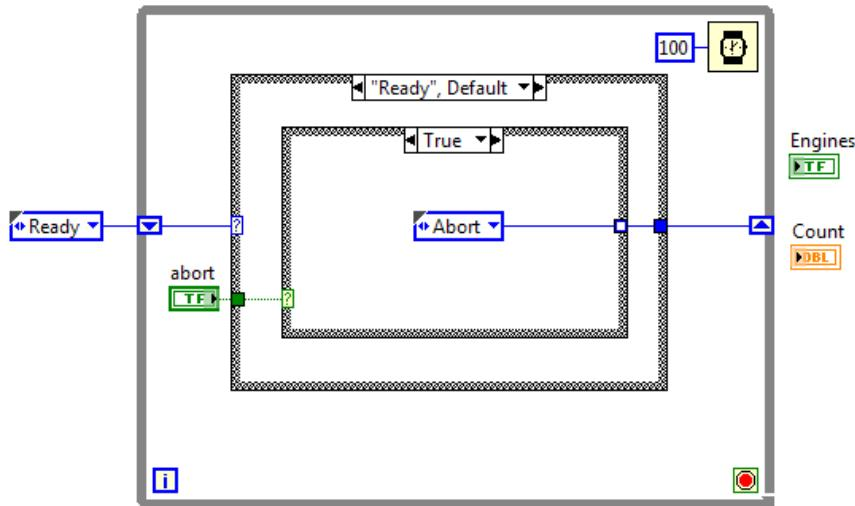

FIGURE E.8 Wiring the Ready state to handle the Abort button being pressed.
30. Grab the terminal for the Abort button and put it inside the While Loop, close to the left side. You are doing this now to help you size things right in the next step. (As you go through the next few steps, you may find it useful to look ahead to Fig. E.8.)
36. Wire the control to the shift register as shown in Fig. E.8. Note the tunnel that appears as a white square. This is an error (which we will fix in a moment). It is telling you that you have not wired to this output in every case. You must provide a valid output for every case in order for the program to run. Note the 100 ms delay, which every program that waits for human input should have!